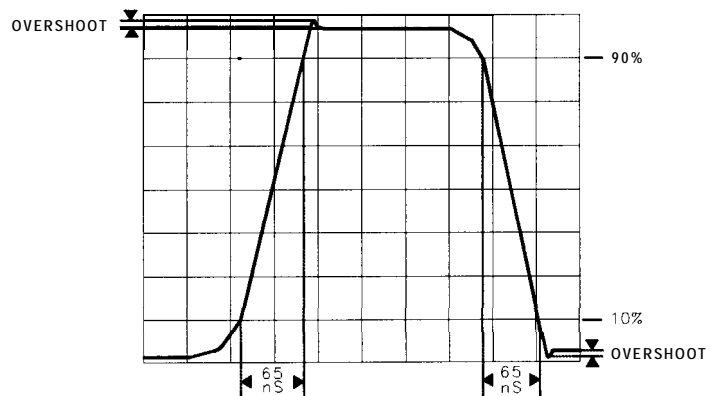

Figure 3-28.
- Use the oscilloscope $\Delta t \Delta V$ markers to measure the risetime, falltime, and percent overshoot of the composite X deflection waveform. Rise and fall times should both be less than approximately 65 ns between the 10% and 90% points on the waveform. Overshoot should be less than 3% (approximately 0.25 divisions). See Figure 3-28.